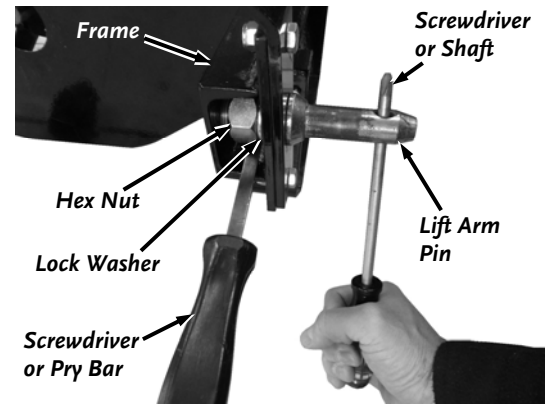

Figure 7
1. Position the Lock Washer and the Hex Nut inside the plate and channel (**Figure 7**).